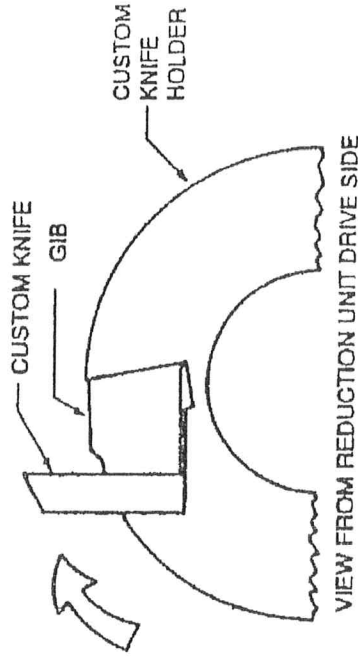

Fig. B-2
7. Place the knife in the slot next to the gib, with the leading edge next to the gib (see fig. B-2).